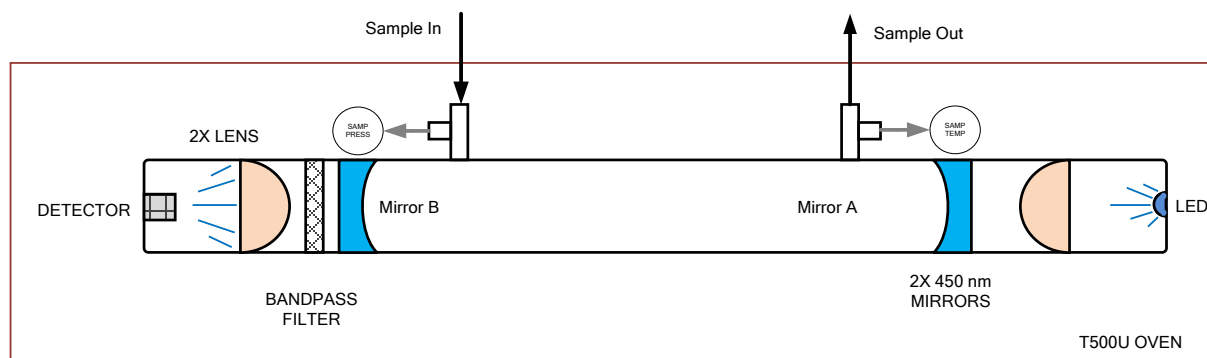

Figure 14-1: T500U Optical Absorption Cell
The CAPS method employed in the T500U is unique in that it applies this fundamental optical absorption law in the frequency domain, rather than using relative changes in light intensity as the primary signal. Ultraviolet light (UV) from the modulating high intensity LED enters a near confocal optical cell (Figure 14-1) through the rear of mirror A. The intensity of the light, as observed by the detector, which is also modulating at a slightly different frequency, located behind Mirror B, builds exponentially in the cell while the LED is ON. The opposite is true when the LED is OFF. Because both mirrors are highly reflective at 450 nm, a prominent absorption band for NO₂, the light takes a considerable amount of time to plateau in the absence of the absorbing gas. However, when NO₂ is present, the mean path length traveled by the light is significantly reduced. This has two effects on the observed intensity as measured by the detector: